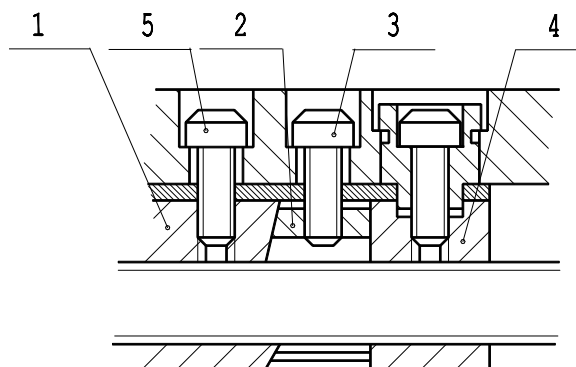

Fig. 16 Adjustment of clearance between the leadscrew and the nuts
When there is seizure during moving of the compound rest and the cross slide or clearance between the cross slide and its guideways and that between compound rest slide and guideways, they can be adjusted by gibs through screws respectively. In case of backlash of cross slide leadscrew resulting from wear of adjustable nuts 1 and 4. First, loosen screw (5), and then draw up the wedge (2) with screw (3) at middle until the backlash is eliminated. Last, tighten the screw 5 (Fig. 16) to make the nut fixing.